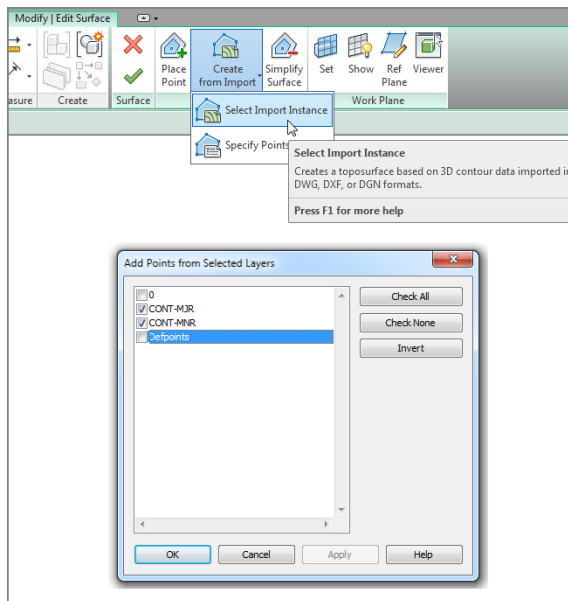

FIGURE 18.34: Adding the toposurface
2. On the Tools panel, click Create From Import > Select Import Instance, as shown in Figure 18.34.